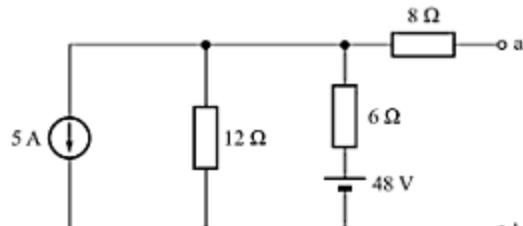

Fig. A-80
- A-39. Find the Thevenin's equivalent of the circuit shown in Fig. A-80.